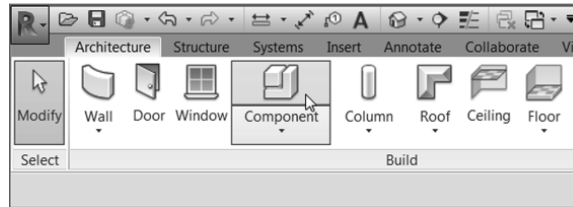

FIGURE 2.74: Clicking Component on the Architecture tab
1. On the Architecture tab, click Component, as shown in Figure 2.74.